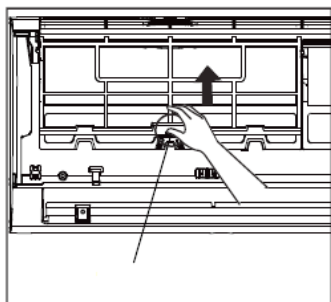
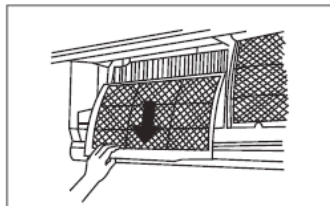

fig. 17 -
fig. 18 -
3. Remove the filters by pushing up the central tabs until they free themselves from the retainer and slide them off downwards ("fig. 17 -" and "fig. 18 -")